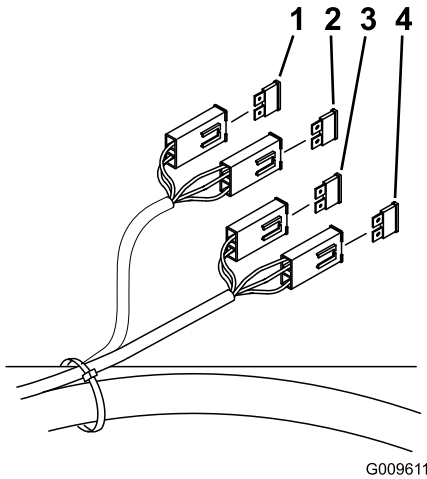

Figure 40
1. Unlatch the seat and raise the seat to gain access to fuse holder (Figure 40).
3. Install a new fuse (Figure 40).